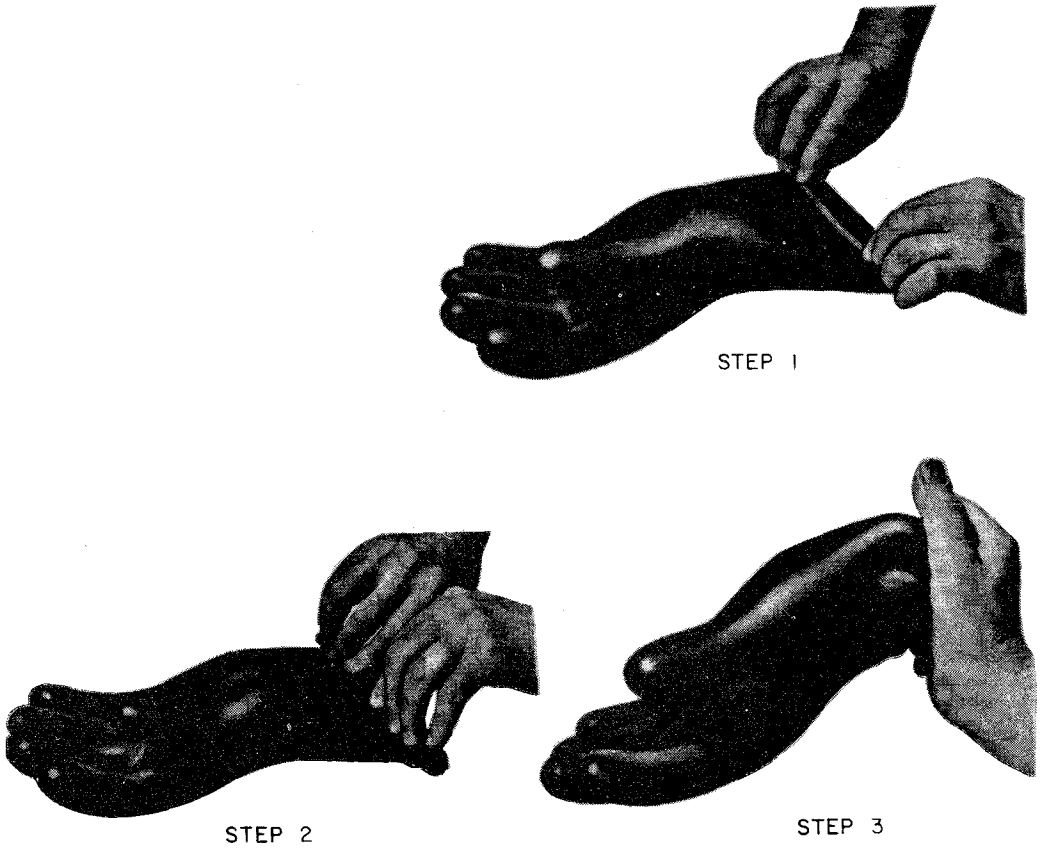

Figure 6 - Alternate Air Test
- (3) Hold the rolled-up gauntlet in one hand.
- (4) At head level, squeeze the palm of the glove with the other hand to put the confined air under pressure.
8.02 An alternate method (Fig. 6) to air test the insulating gloves can be performed in the following manner.